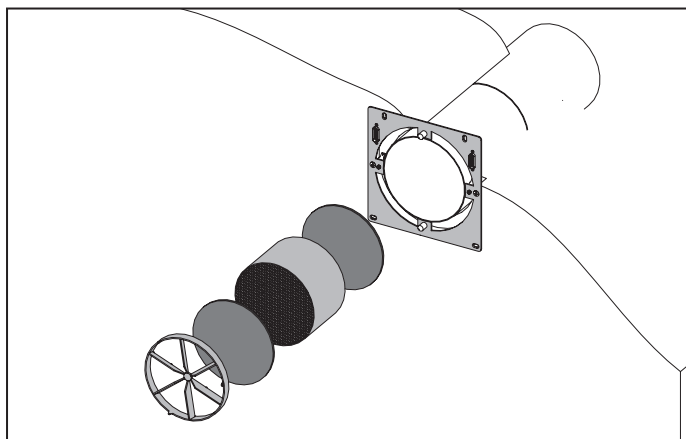

Fig. 11. Unit components mounting
5. Install the ceramic heat exchanger with both filters, front and back, and the air flow rectifier, fig. 11.